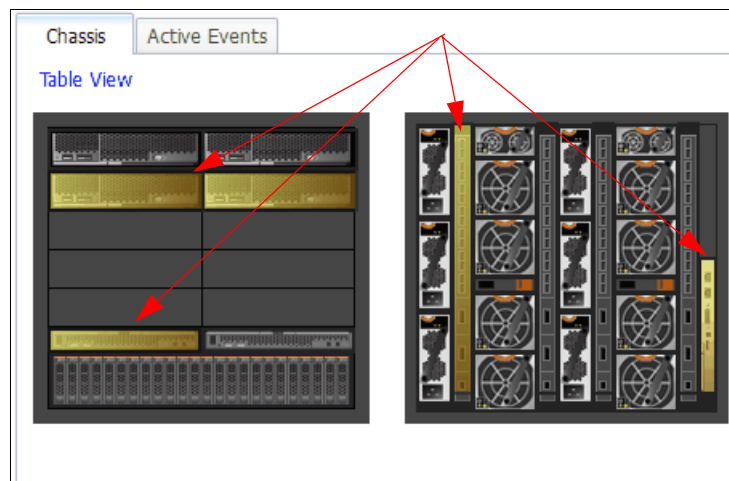

Figure 13-25 CMM Chassis Map - color status
2. Look for colors as an indication of an IBM Flex System V7000 canister's status, as shown in Table 13-12 and Figure 13-25.